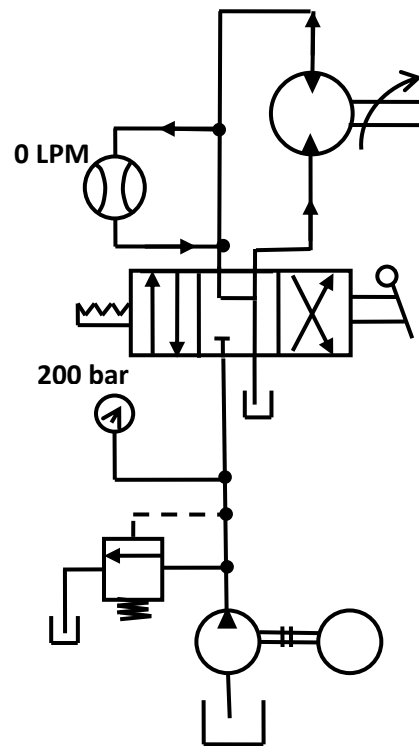

Figure 1.21 Application of 4/3-way valve – floating neutral.
5. **Application of 4/3 DCV (float neutral) for controlling a bidirectional motor:** Figure 1.21 shows a four-way with a float neutral controlling a bidirectional motor. The pressure port is blocked so that the pump flow is forced over the pressure relief valve. Because both the outlets are connected to the tank, the motor floats or spins freely when the DCV is in the neutral. This type is used in motor circuits because it allows the motor to spin to a stop when the valve is shifted to the neutral. This is often preferable to shifting to a closed position because motors often build up a great deal of momentum. Shifting the valve closed in this situation causes a large pressure hike in the outlet line because the motor tends to keep spinning and tries to push the fluid into its outlet. This is known as shifting shock. Float neutrals are often desirable for cylinder circuits in some applications.